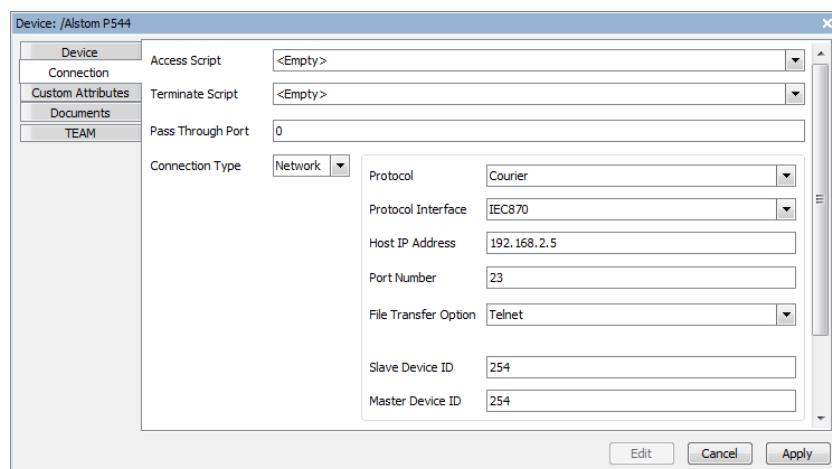

Figure 61 Connection Settings
Step 5. Under the **Connection** tab, specify **Network** as the **Connection Type** and **Courier** as the **Protocol**. Select **IEC870** for **Protocol Interface**. Enter the IP address and port number of the IED, and set the **File Transfer Option** to **Telnet**. Set the **Slave Device ID** and **Master Device ID** to that of the IED (254 is the default), as shown in *Figure 61*. Select **Save All** (blue icon).